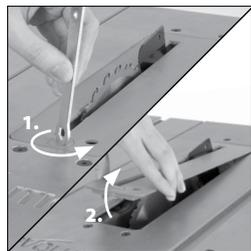

Fig. 14
- Remove the Table Access Plate by turning the fixing screw ¼ of a turn. Lift the Access Plate from the machine (Fig. 14). Carefully store this component for later use.